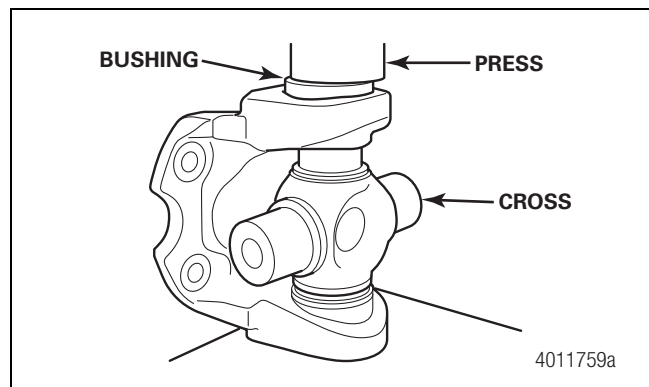

Figure 4.63
5. Verify the universal joint is positioned straight in the press and is not cocked. Ensure the universal joint and the bushings being installed are aligned before applying pressure. Press down on the top bearing to install it down into the yoke hole and onto the cross. Figure 4.63.